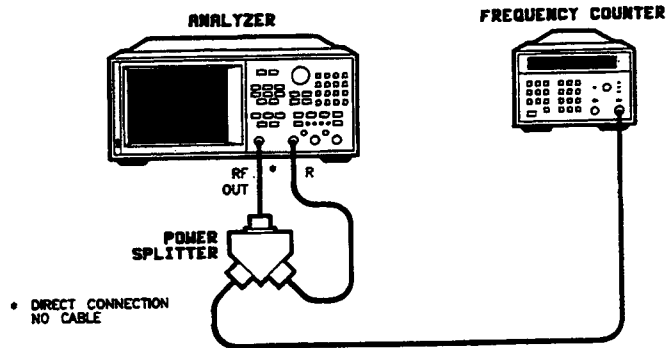

Figure 7. Frequency Accuracy Adjustment Setup
1. Remove the instrument top cover (see the *Adjustments* tab). Connect the power splitter to the analyzer's RF OUT and connect its outputs to input R of the analyzer and to the frequency counter input (see Figure 7).